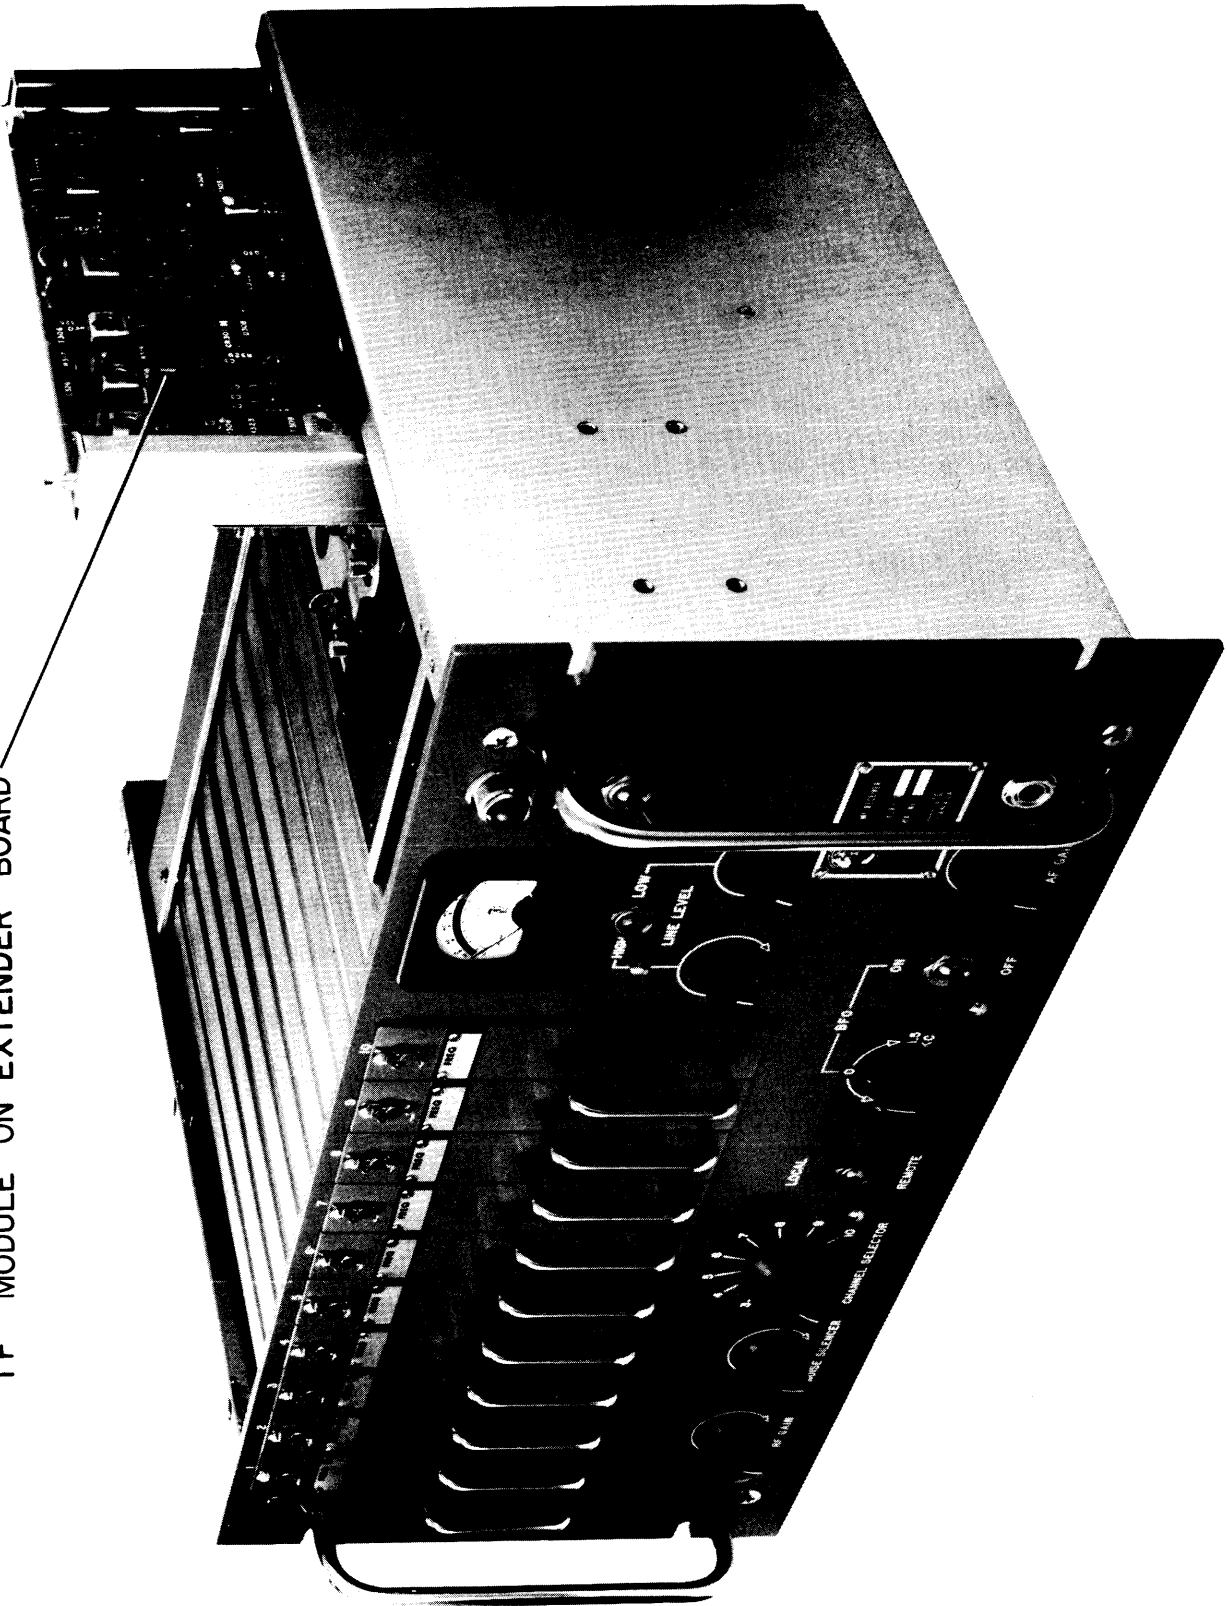

FIGURE 5-2. I-F MODULE ON EXTENDER BOARD
c. **TROUBLESHOOTING AIDS.** – To aid troubleshooting and maintenance, use the module extenders illustrated in figure 2-1 and listed in table 2-2. Figure 5-1 shows the module extender in use with an r-f module; figure 5-2 shows the extenders in use with the i-f module.